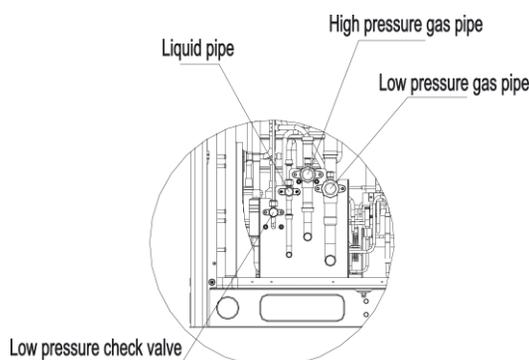

Fig.30
- (1) Confirm outdoor liquid and gas valves are closed. Air purging from the nozzle located on liquid and gas valves by vacuum pump. See Fig.30.